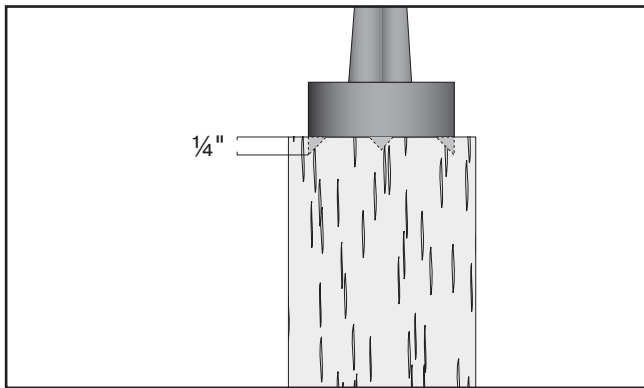

Figure 44. Spur center properly embedded.
6. Drive the spur center into the end center mark of the workpiece with a wood mallet to embed it at least $\frac{1}{4}$ " into the workpiece (see **Figure 44**).